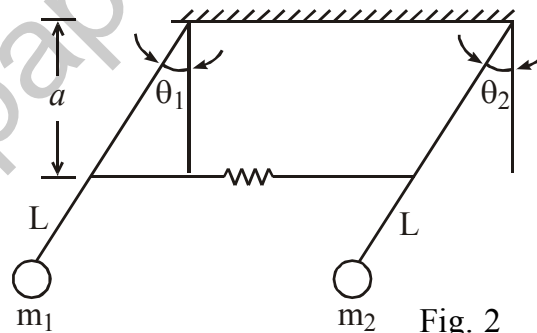

Fig. 2
7. Two pendulums of length L are shown in Fig. 2. Determine the natural frequency of each pendulum. If $K = 100$ N/m, $m_1 = 2$ kg, $m_2 = 5$ kg, $L = 0.20$ m & $a = 0.10$ m